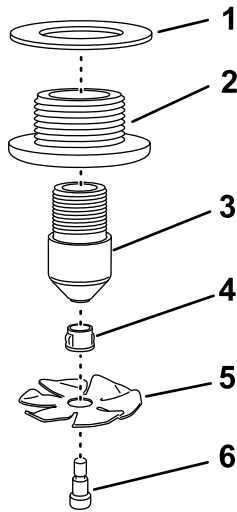

Figure 20
1. Assemble the rinse vane and bushing over the shoulder bolt (Figure 20).
2. Assemble the rinse vane, bushing, and shoulder bolt onto the rinse nozzle (Figure 20).
4. Install the rinse-nozzle assembly into the bulkhead fitting and tighten by hand (Figure 20).
5. Assemble the gasket over the bulkhead fitting (Figure 20).